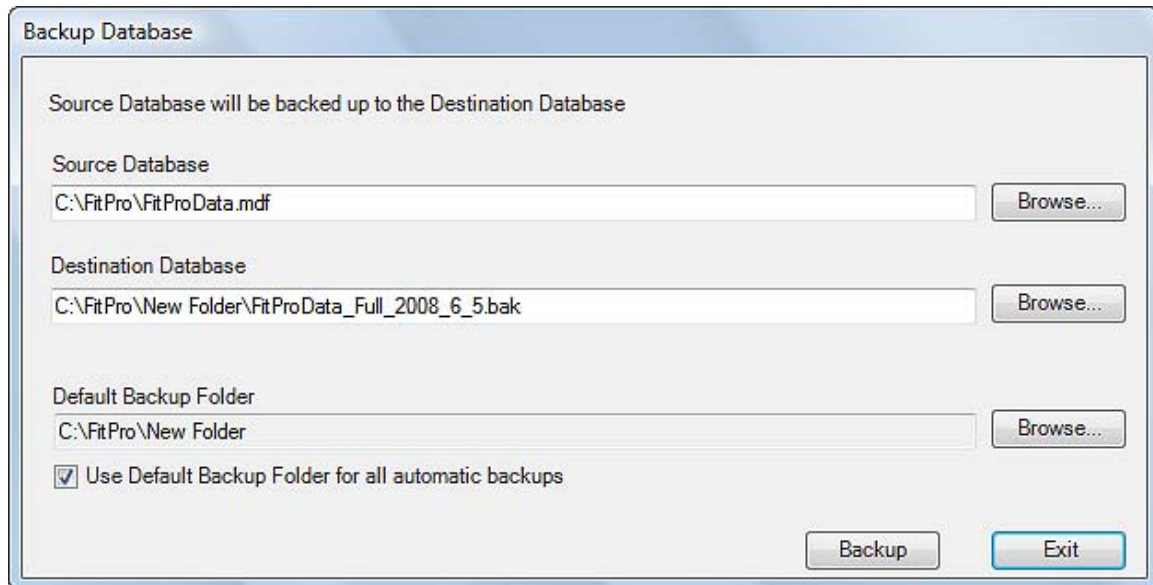

Figure 28. Backup Database Dialog
1. Select **D**atabase | **B**ackup. The backup dialog (Figure 28) appears.